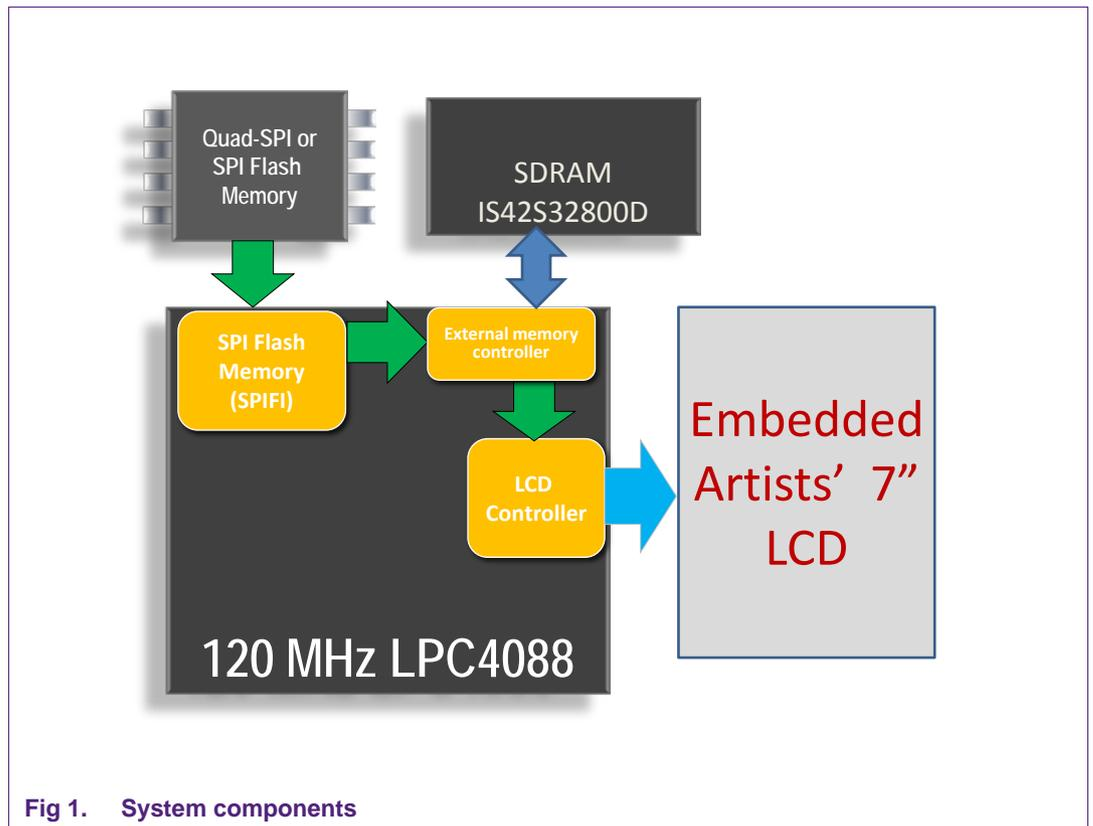

Fig 1. System components
Fig 1 depicts the main system components required by this application. This application is developed on the Embedded Artists (EA) LPC4088 Developer's Kit. It has a Quad SPI Flash chip which stores the image data of a "rocket launch image". The SDRAM is used to store the virtual screen which contains multiple layers of images. The LCD controller loads the visible part of the virtual screen from the SDRAM and sends it to the 7 inch TFT LCD.